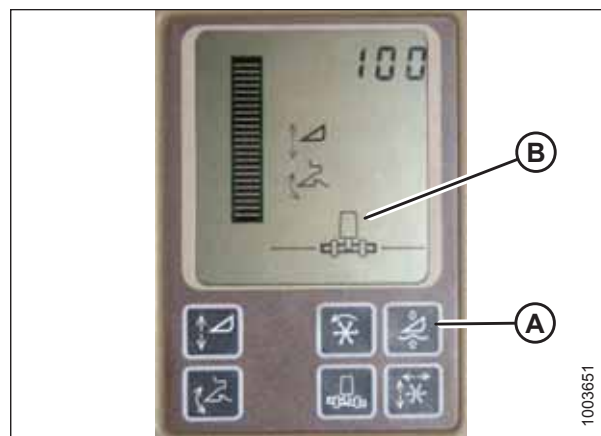

Figure 4.150: John Deere Combine Display
Do **NOT** use active header float function (A) in combination with the AHHC system; the two systems will counteract each other. Header symbol (B) on the display should **NOT** have a wavy line under it and should appear exactly as shown on the Active Header Control Display in Figure 4.150, page 179.